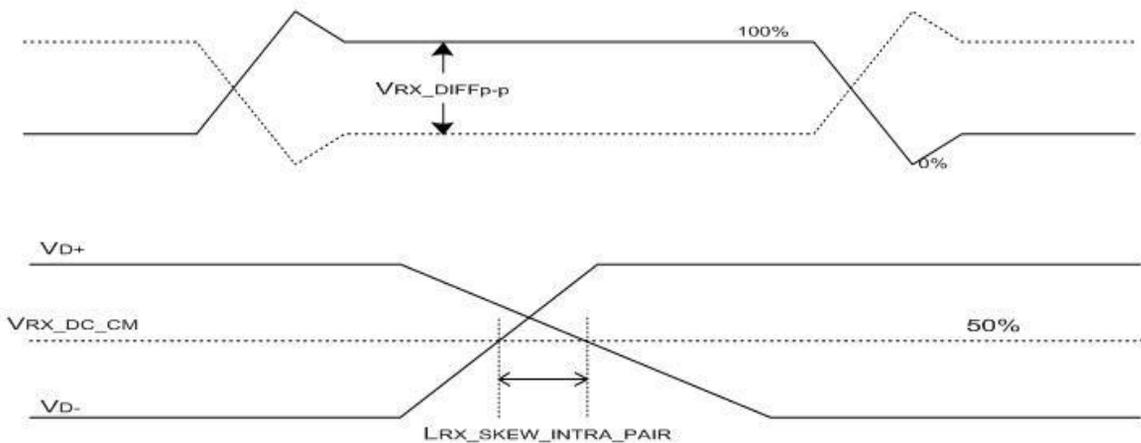

Figure 7. VRX-DIFFp-p & LRX_SKEW_INTRA_PAIR
1. Viewing angle is the angle at which the contrast ratio is greater than 10. The viewing angles are determined for the horizontal or 3, 9 o'clock direction and the vertical or 6, 12 o'clock direction with respect to the optical axis which is normal to the LCD surface (see Figure 7).
2. Contrast measurements shall be made at viewing angle of $\Theta=0$ and at the center of the LCD surface. Luminance shall be measured with all pixels in the view field set first to white, then to the dark (black) state . (see Figure 7) Luminance Contrast Ratio (CR) is defined mathematically.